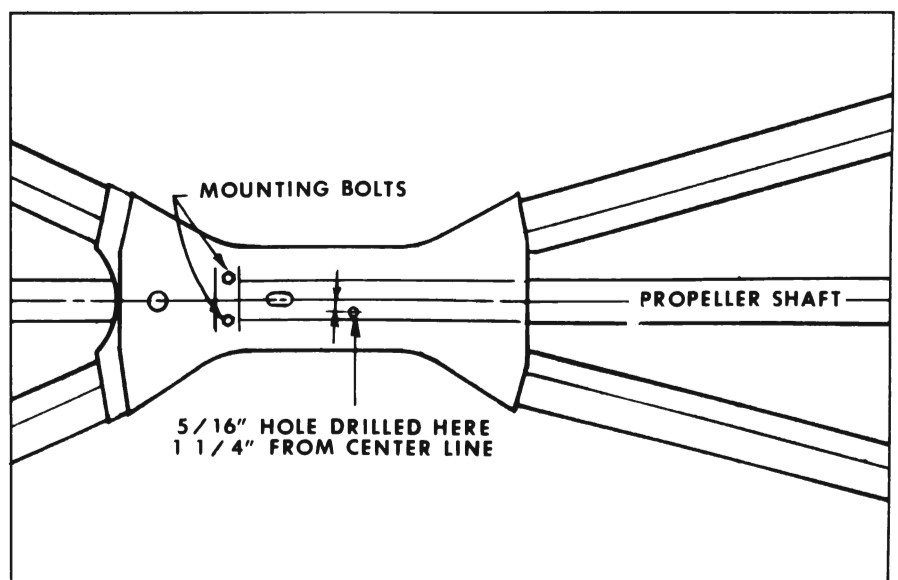

Figure 6-76—Locating Access Hole in Frame
3. Install two (2) Wittek #28 hose clamps (Gr. 1.166, Part #1351813) on the rear propeller shaft and slide them forward until the clamps stop at the nearest balance weight welded to the tube. This involves working the clamps into the frame tunnel with the fingers.
4. To provide an access hole in the frame tunnel for inserting a screwdriver to tighten the hose clamps, drill a 5/16" hole located as follows: Measure from the rear of the frame tunnel forward to the first welded-on balance weight. Subtract 1/2" from this measurement; then using this distance, measure from the rear of the frame tunnel forward and mark this distance on the bottom outside frame tunnel. This locates the hole between the clamp screws so both can be reached. Offset the hole approximately 1-1/4" from the car centerline and drill the 5/16" hole. See Figure 6-76.